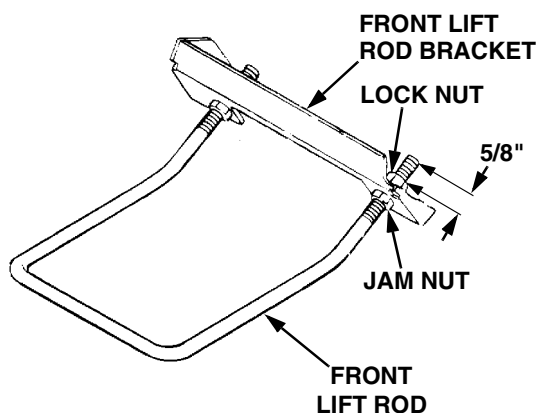

**Figure 58**
7. Side-to-side leveling is obtained utilizing the adjustment ferrule and right hand hanger bracket (Refer to Figure 58).
- Loosen the upper jam nut on the hanger bracket and turn away from the adjustment ferrule. Turn the lower lock nut upward (tighten) on the threads of the hanger bracket to raise the right side of the mower deck. Turn the lock nut down (loosen) on the threads to lower the right side of the mower deck (Refer to Figure 58).